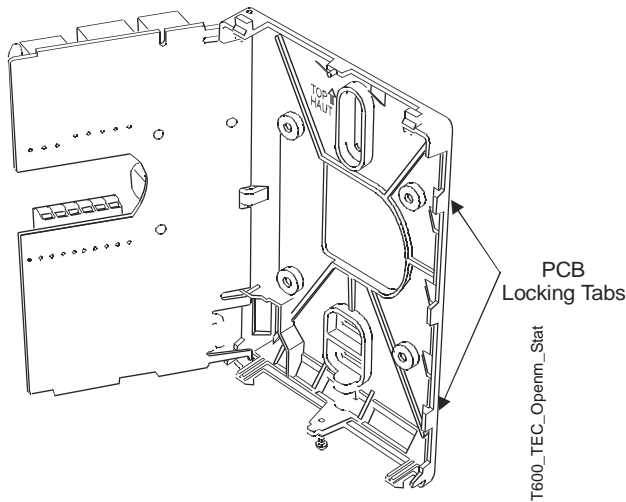

Figure 2: Opening the Thermostat PCB
2. Unlock the Printed Circuit Board (PCB) by carefully pressing the locking tab to the right (Figure 2). Open the thermostat's PCB to the left.